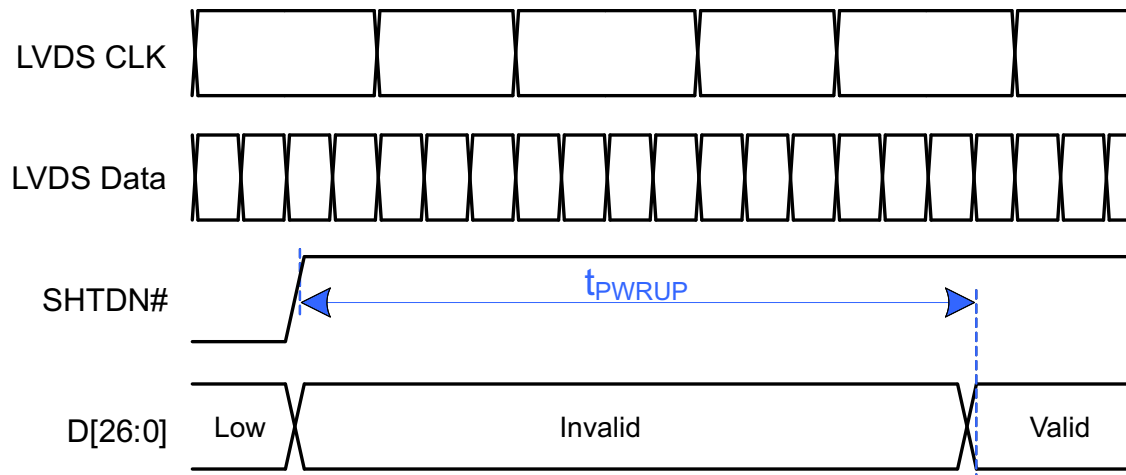

图 5. Time to Exit Shutdown Mode
(1) Grayscale and 1010 test patterns are described by 图 5 到 图 6 和 表 1 到 表 2.
(2) Standby Mode can be entered in two ways: fCLK = zero to 500 kHz, or a high VCM on the LVDS clock. If the LVDS transmitter device disables its clock driver to a high-impedance state, the SN65LVDS822's integrated RPU will pull VCM high for the lower-power Standby state.